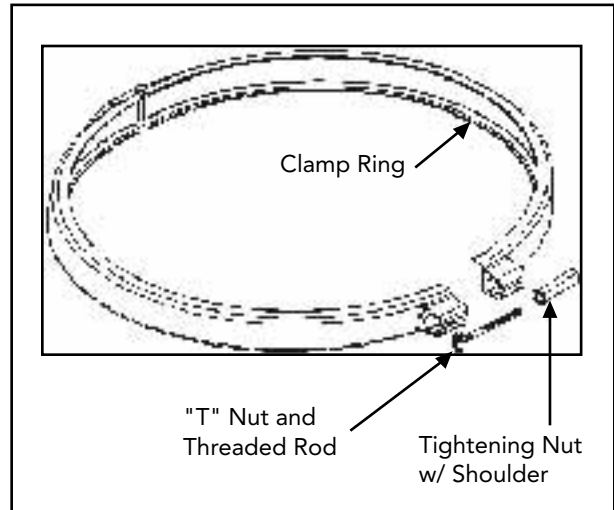

Figure 5- Filter Clamp Ring
3. Check that the tank clamp is correctly seated and tight (See Figs. 5 & 6).